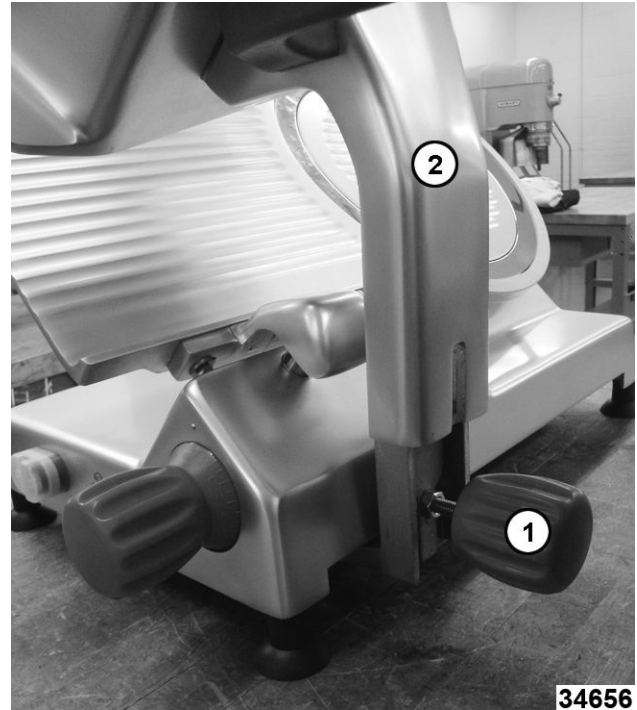

Fig. 3
1. Loosen the carriage knob (1, Fig. 3).
2. Lift the product table (2, Fig. 3) up off of the carriage.